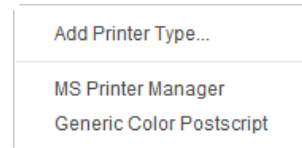

Figure 2-40 Shortcut menu displayed on choosing the **Commands and Settings** button
2. Choose the **Commands and Settings** button from this dialog box; a shortcut menu is displayed, as shown in Figure 2-40.